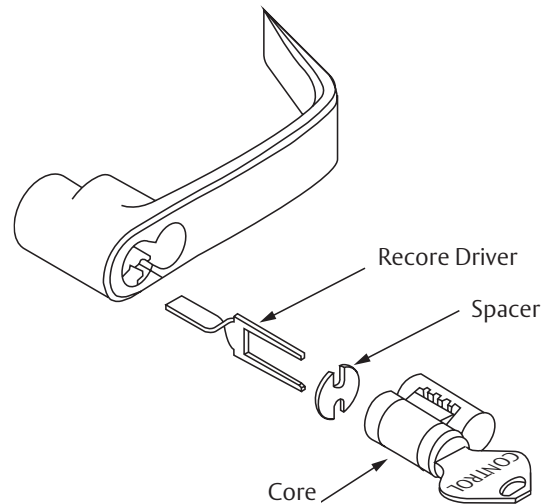

Figure 8
5. As shown in Figure 8, core must be installed with keyed plug toward edge of door.